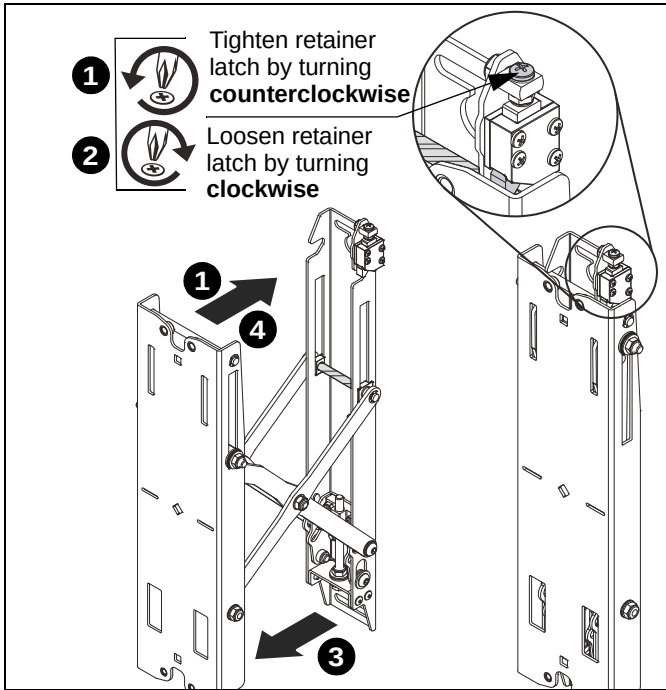

Figure 5
1. Close the FCAV1U brackets and tighten the retainer latch (turn **counterclockwise**) to hold the brackets in the retracted position. (See Figure 5)
2. Loosen the retainer latch by turning screw **clockwise**. (See Figure 5)